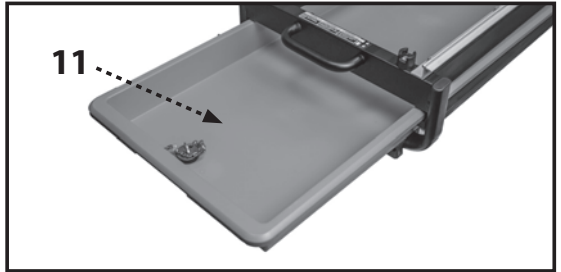

FIGURE 5
- (See Figure 5) Insert water tray (11) by sliding it into the frame as shown. The lip of the tray should rest on top of the left and right rails of the main frame.